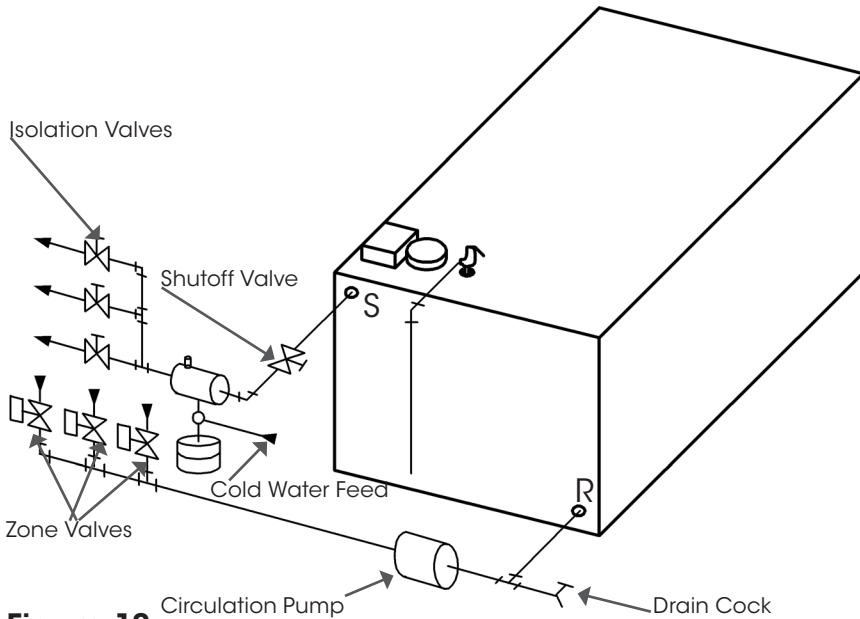

Figure 18
1. Multiple zoning with zone valves: Install a balancing valve in each zone and adjust so that flow is about the same in each zone. See Figure 18.